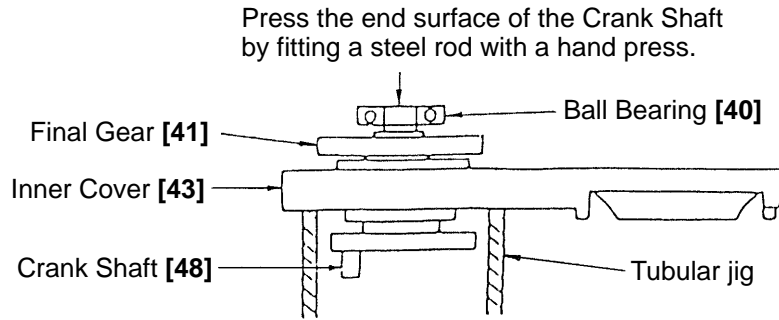

Fig. 14
First, remove the four M5 x 16 Seal Lock Hex. Socket Hd. Bolts [47] which fix the Bearing Cover [46]. Then, as illustrated in Fig. 14, support the lower surface of the Inner Cover [43] with an appropriate tubular jig, align an appropriate steel rod with the end surface of the Crank Shaft [48], and press down on the steel rod with a hand press. The 6205DDCM Ball Bearing [45], Distance Ring (B) [42], Final Gear [41], two Woodruff Keys [64], and Crank Shaft [48] can then be disassembled from the Inner Cover [43].